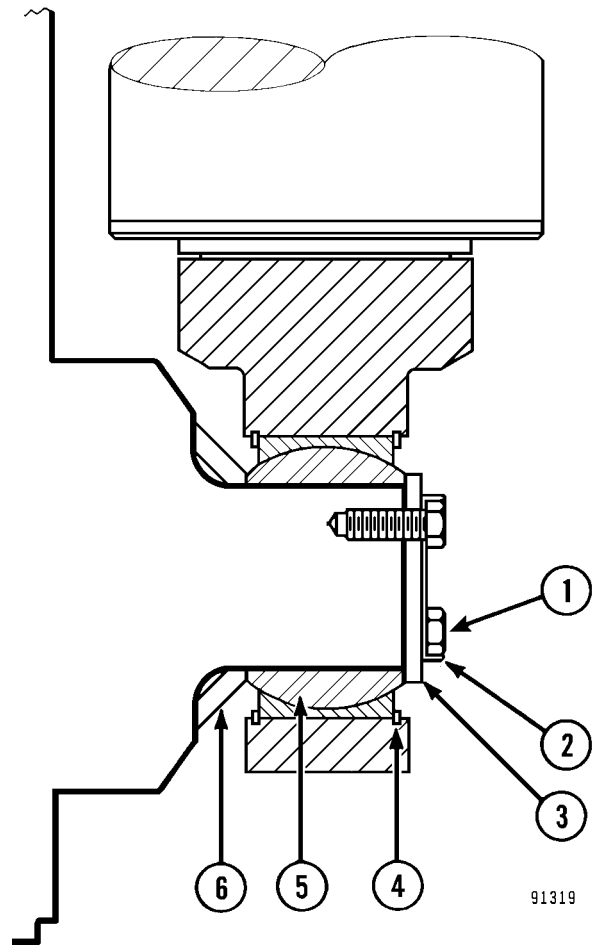

FIGURE 8-18. HOIST CYLINDER LOWER MOUNT
2. Install retaining plate (3), locking plate (2), and capscrews. Tighten capscrews to **220 ft. lbs. (298 N.m)**. Bend locking plate tabs over cap-screw flats.
3. Align the top hoist cylinder bearing eye with the bore of the upper mounting bracket. Refer to Figure 8-18.
4. Align retaining capscrew hole in pin with hole in mounting bracket and install pin. Install cap-screw (5) and self-locking nut (4) and tighten to standard torque.